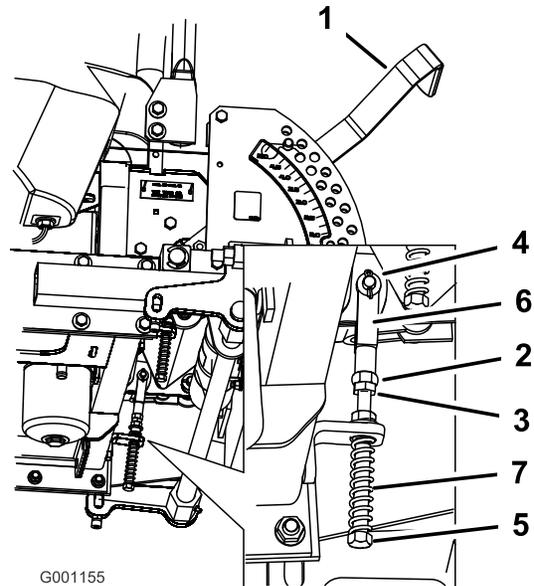

Figure 74
10. Tighten the nut and jam nut (Figure 74).
8. If adjustment is needed, loosen the nut and jam nut against the yoke (Figure 74).
9. Apply slight rearward pressure on the motion control lever, turn the head of the adjustment bolt in the appropriate direction until the control lever is centered in the neutral lock position (Figure 74).